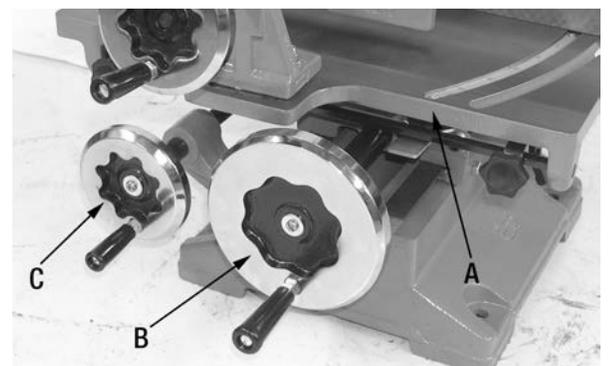

FIGURE 13
The sliding table (A) Fig.13 is very convenient if you plan on making multiple cuts in the same workpiece, it allows you to move the sliding table side-to-side or back-to-front instead of unclamping and repositioning your workpiece.